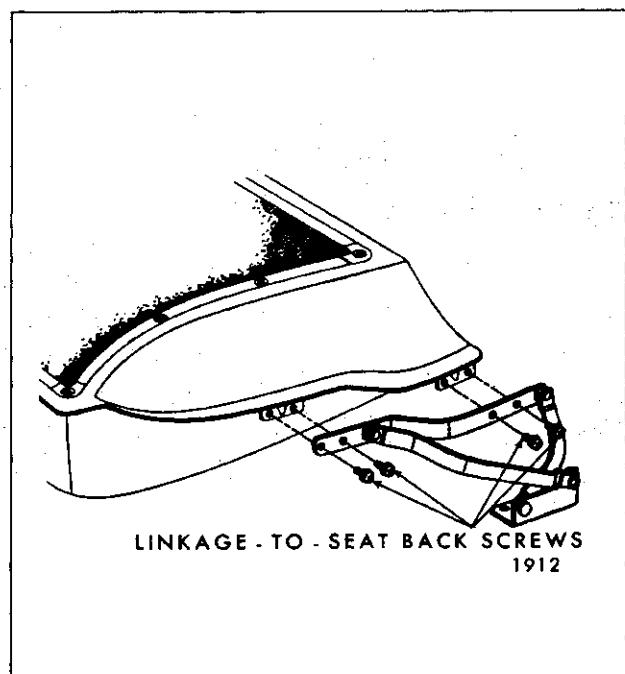
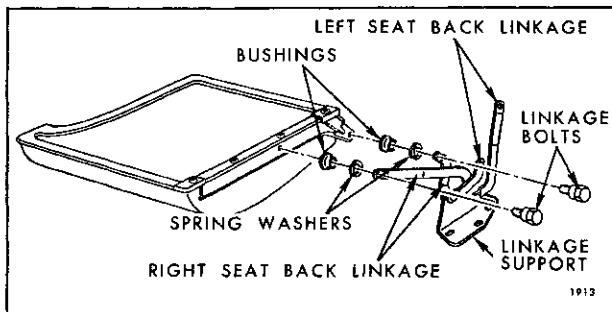

Fig. 15-63—Folding Second Seat Back Supports
Fig. 15-64—Folding Second Seat Back Inner Linkage and Support
4. To remove linkage from folding second seat back remove linkage-to-seat back panel attaching bolts and remove linkage - See (Fig. 15-63 for full width seat) (Fig. 15-64 for split seat).
5. To install, reverse removal procedure. If linkage was removed from split seat back, make sure bushings and spring washers are properly installed prior to installing linkage attaching bolts. (See Fig. 15-64).
2. Move folding second seat back forward just sufficiently to remove two lower linkage-to-seat back panel attaching screws. (See Fig. 15-63).
4. Remove two upper linkage-to-seat back panel attaching screws. (See Fig. 15-63).
4. Remove inner linkage-to-seat back bolts from both right and left seats (See Fig. 15-64); then carefully disengage inner linkage from seat backs and floor pan studs and remove linkage assembly.
5. To install, reverse removal procedure. Make sure bushings and spring washers are properly installed prior to installing linkage attaching bolts to both right and left seat back panels. (See Fig. 15-64).